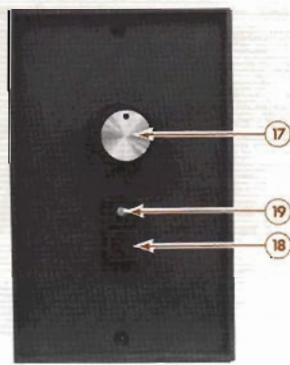

Figure 5
A monitor port, when specified for a console, will have a Common Speaker, Volume/Mute and up to three Receiver-Select Modules. The Volume/Mute Module (Figure 5) provides volume control ⑰ for audio on all connected receivers.